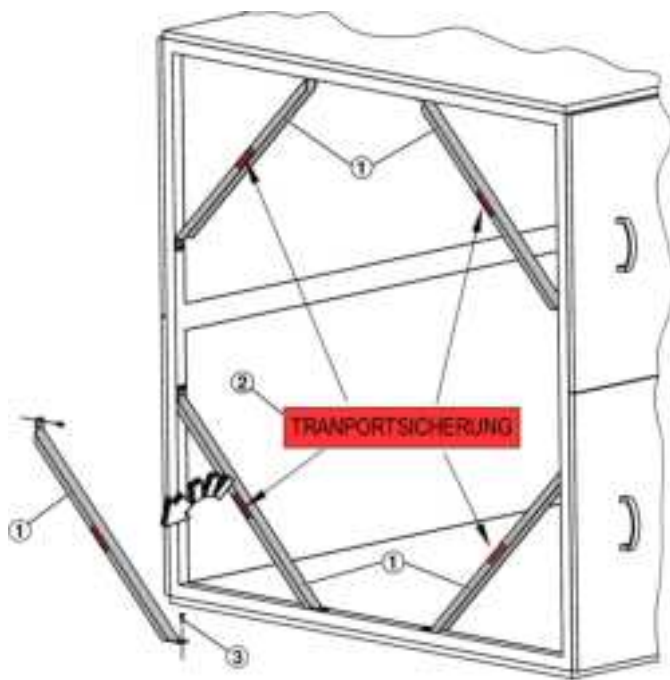

Fig. 8: Cross bars
1. ▶ Remove the cross bars (Fig. 8 /1) that are marked with a red sticker (Fig. 8 /2).
2. ▶ Then close the drilled holes in the frame with screws (Fig. 8 /3).